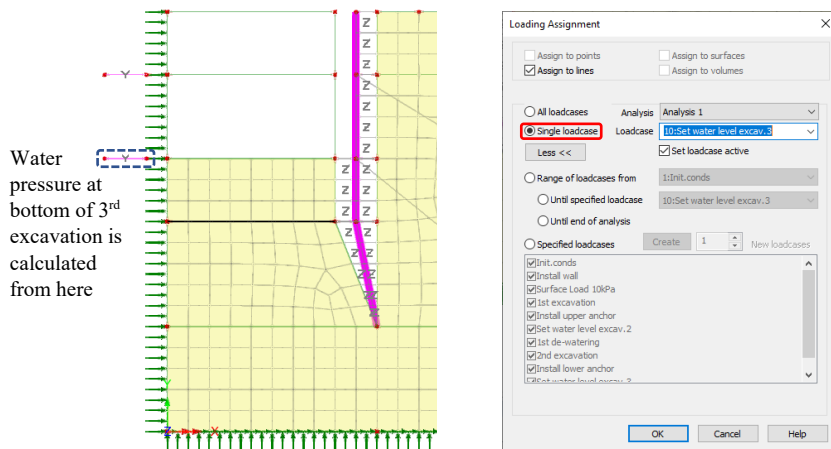

Figure 54: Setting water pressure at bottom of 3rd excavation
- Select the line at the bottom of the 3rd excavation and assign the Water pressure distribution Load attribute **2nd de-watering pwp**. Ensure that the **Single loadcase** radio button is selected (figure 54).